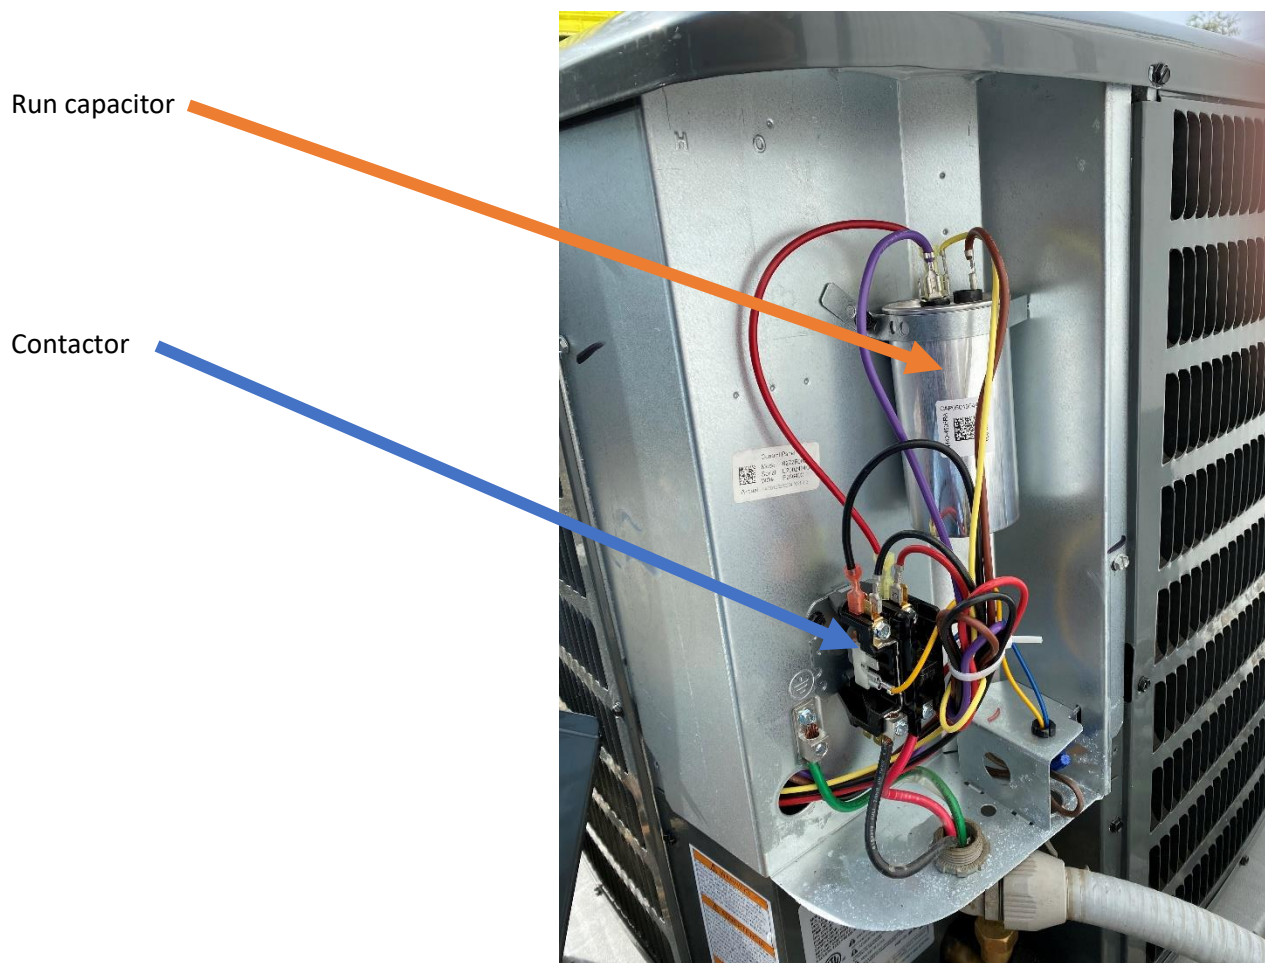

Figure 1
The two components shown in figure 1 will be used to connect your EasyStart. Locate these components in your air conditioner before proceeding. Some compressors will have additional components and may have a circuit board as well. Power comes in from the bottom of the contactor usually from a breaker or fuse panel on the dwelling. This must be disconnected (Turn the breaker off) before connecting EasyStart.
Many compressors have three terminal group capacitors as shown in figure 1. These capacitors feature labels on the top as indicated by the arrows above. Use the labels on these capacitors to identify where to make connections.
Step 2: Disconnect the red wire pointed to by the green arrow in figure 1. Pull it back out through the transformer pointed to by the blue arrow.